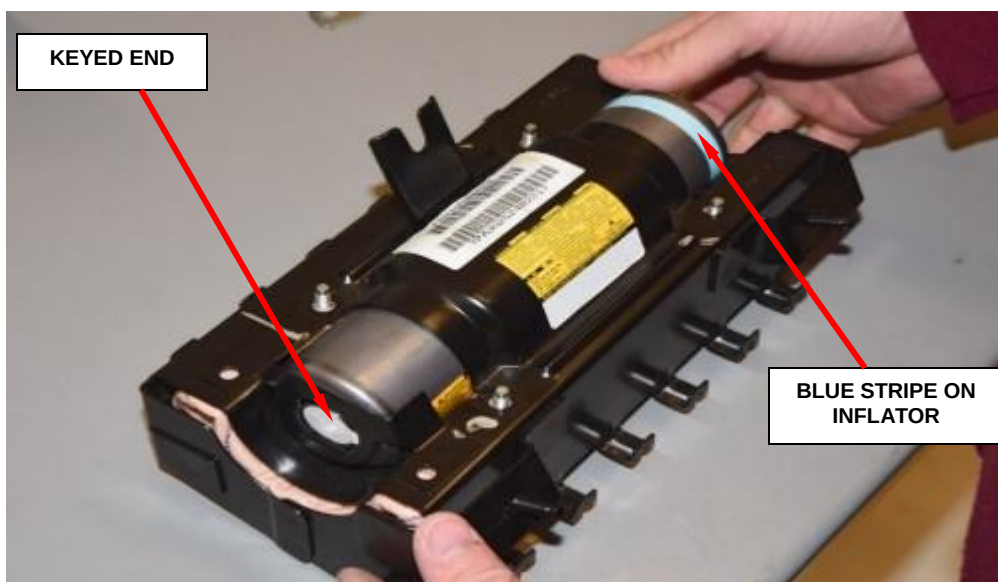

Figure 152 – Insert Inflator
- e. Remove and discard the four mounting nuts and stopper plate from the passenger airbag module (Figure 152).